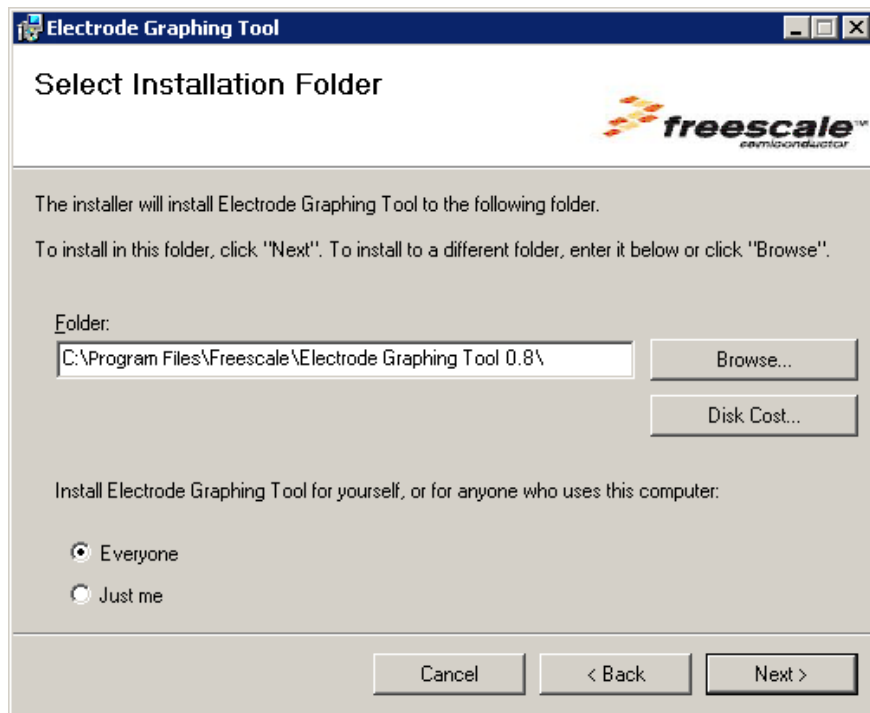

Figure 3-2. Select Installation Folder Window
4. The Select Installation Folder window, as shown in Figure 3-2, will appear. Choose a destination folder or leave the default destination path. Select if application will be available for all users on the computer or only for the current user (administrator privileges are needed to make an installation for all users). The Disk Cost button shows the free space on your local drive and gives information about how much disk space the application will require. Click Next to continue.